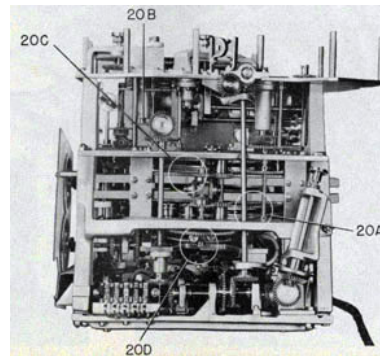

Figure 140-Gear Stop Adjustment Points.
20. In order to obtain the proper range of speed between the extremes of the intermittent gear stops, certain adjustments must be made. See figures 140 and 141.
d. The micrometer adjustment gear on the end of DF-6 should be set so that the adjusting screw is vertical. See that the pin on the electrical limit switch is also vertical. See figures 140 and 141.